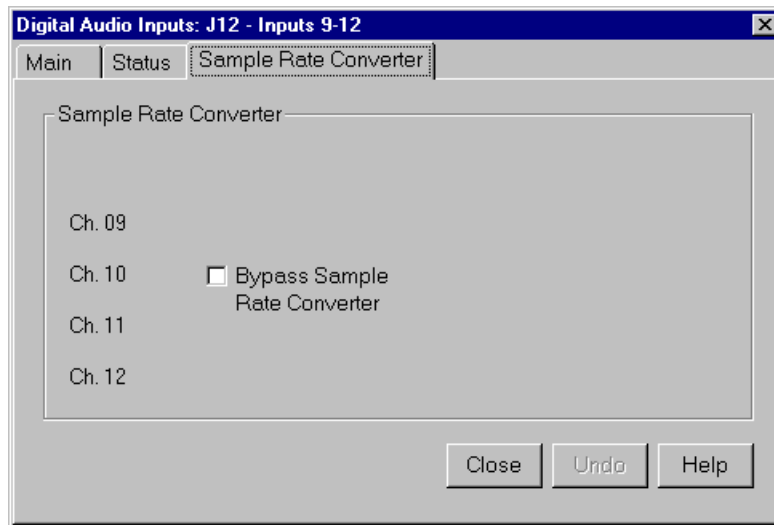

Figure 36. Digital Audio Input dialog box, Sample Rate Converter tab
1. In the Digital Audio Input dialog box, click the Sample Rate Converter tab (Figure 36). By default, the sample rate converter is enabled. The sample rate converter affects all four channel inputs.